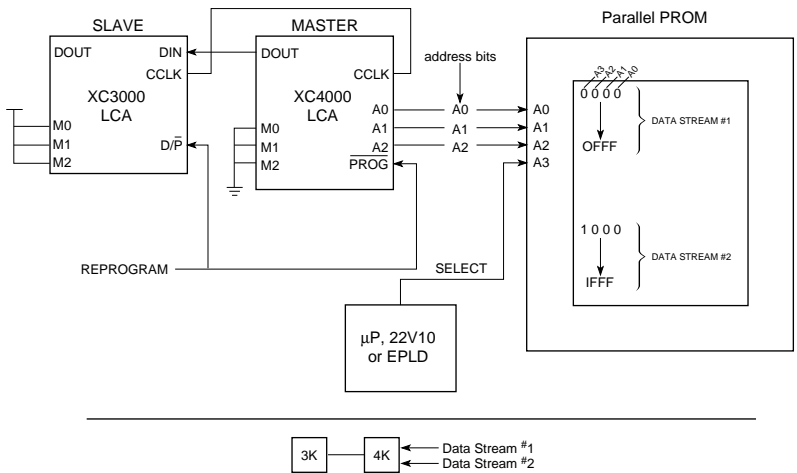

Figure C-2 Reconfiguration Setup for a Daisy Chain (Parallel PROM)
2. Connect the components on your board as shown in Figure C-2.